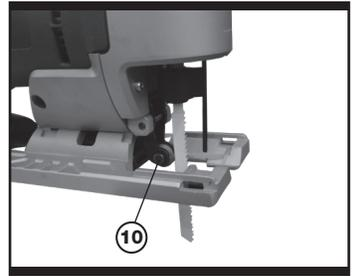

Fig 5
To open the blade holder (13) rotate the ring anti-clockwise (Jigsaw upside down) and hold in position (See Fig.4). Then fully insert the blade into the blade holder slot with blade teeth facing forward and release the ring, which will self rotate and clamp over the top of the blade. Push the blade into the blade holder again to ensure it is locked in position. Ensure the edge of the blade is located in the groove of the blade guide (See Fig.5). To remove a blade, holds the blade and rotate the blade holder ring anti-clockwise then lift out the blade (blade could be spring ejected).
Ensure the blade is located and runs smoothly in the groove (See Fig.5) otherwise the pendulum function will not work correctly and the blade will not be supported during cutting.